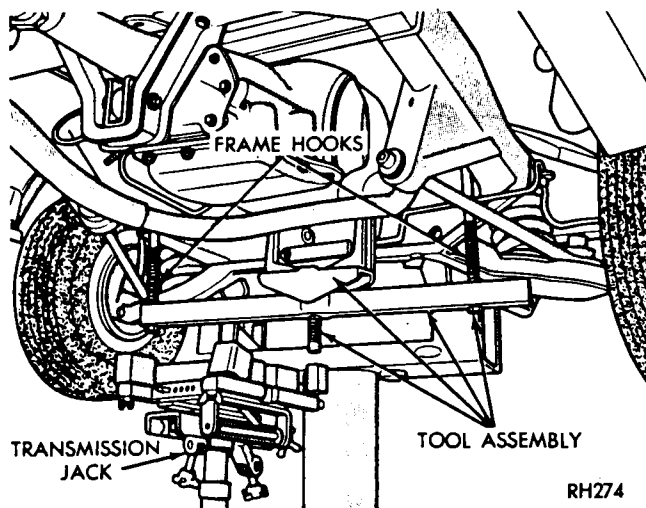

Fig. 1—Engine Support Fixture (Typical)
(15) Disconnect throttle rod from lever at the left side of transmission. Remove linkage bellcrank from transmission if so equipped.
(16) Remove oil filler tube and speedometer cable.
(17) Install engine support fixture Tool C-3487-A with frame hooks or a suitable substitute, that will support rear of the engine (Fig. 1).